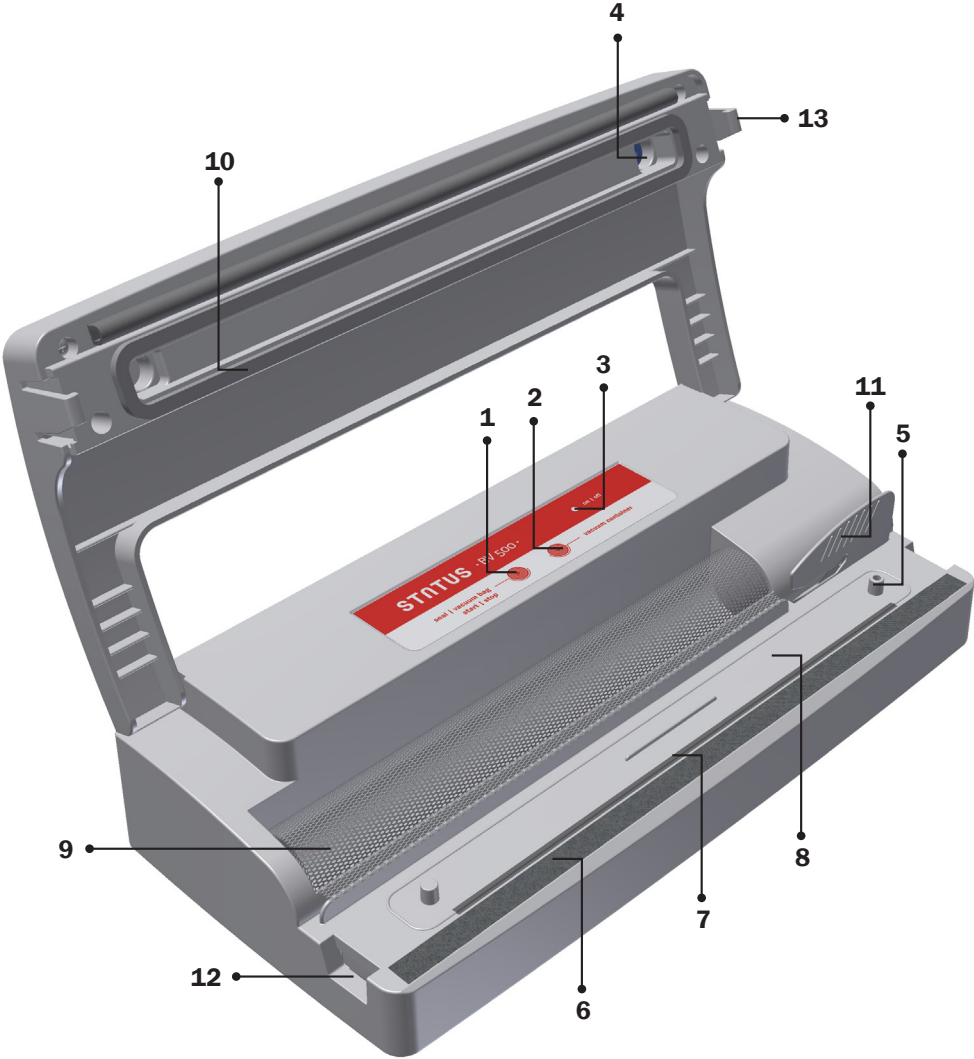
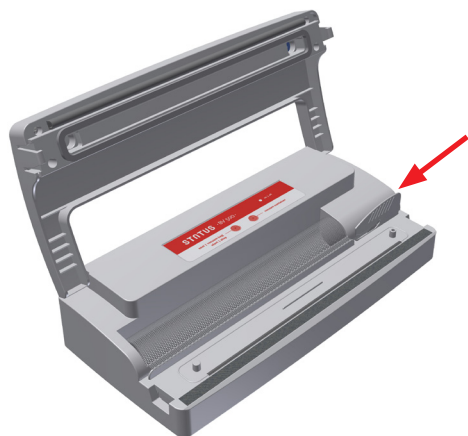
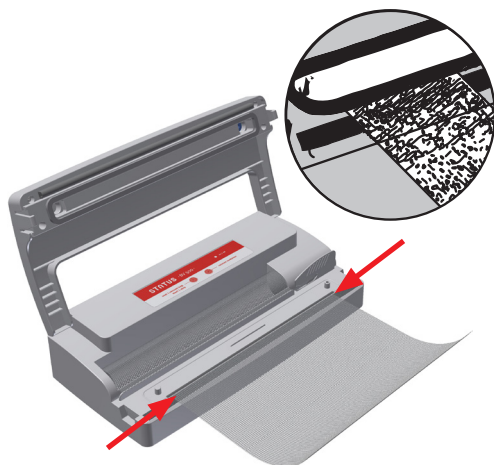

Figure 1: Status BV500 – components are marked with numbers.
Figure 2: Cut the roll with the included cutter.
Figure 3: Place the roll on the Sealing Strip and extend it to the black Silicon Gasket to seal (see arrows).
- d.) Never touch the Sealing Strip when using the machine (Item 6 in Figure 1) – it may be hot.
Every time you start working with the Status BV500 you should warm up the machine. Close the lid, press the **Seal** button (Item 1 in Figure 1) and press down on the lid. This first cycle will warm the sealing strip. When using vacuum bags skip paragraph 2 and continue with instructions in paragraph 3.
- b.) Cut off the desired length with the included cutter (Figure 2). Use Channel (Item 11 in Figure 1) to cut off bag evenly.
- c.) Place the roll on the Sealing Strip and extend it to the black Silicon Gasket (Item 7 in Figure 1, see Figure 3). Make sure that the edge is straight and level.
- e.) Press the **Bag/Start/Stop** button (Item 1 in Figure 1) and press down on lid with your hand and hold it. The lid will automatically stick down and seal the bag. If the Lid can be opened during the process, you didn't press down hard enough, so repeat the procedure. During sealing, the light (On/Off) will be illuminated 100%.
- f.) When the sealing process is completed, push Valve (Item 4 in Figure 1) lightly to move it aside. Open the lid and check the seal. It should be smooth and transparent over its whole width.
- c.) Place the filled bag on the work surface in front of the machine and pull it to the middle of the Vacuum Compartment (see Figure 4 and Item 8 in Figure 1).
- f.) Activate the **Bag/Start/Stop** button (Item 1 in Figure 1). Hold lid pressed until indicator light begins to shine with its full power. The bag will be vacuum packed and sealed automatically. Due to high vacuum pressure the lid stays closed while the machine operates. If the lid opens during this process then press the lid down firmly.
- g.) When the sealing process is complete, push valve (Item 4 in Figure 1) lightly to move it aside for lid to relax. Check the seal - it should be smooth and transparent over its whole width.
WARNING: If the machine starts sucking liquid when an item is vacuum packed, interrupt the vacuum packing process **immediately** by pressing the **Stop** button (Item 7 in Figure 1). You should then use the “manual vacuum packing” function to vacuum pack the item at a lower vacuum so that the liquid is not drawn into the machine.
- Place the filled bag on the work surface in front of the machine and pull it to the middle of Vacuum Compartment (Item 8 in Figure 1).
- Close the lid and secure it with side locks (Items 12 and 13 in Figure 1): press on one of the Lid edges and push the lock horizontally to set it in the allotted space (see the figures below).
- When you are satisfied with the amount of the air removed, or when the liquid starts pouring towards machine, press the same Bag/**Start**/Stop button (Item 1 in Figure 1). The pump stops immediately and the sealing process begins.
- Unlock the machine: press on the lid edges to open the lock. You can press both edges simultaneously or individually. Push valve (Item 4 in Figure 1) lightly to move it aside for lid to relax.
- Press the **Container** button (Item 2 in Figure 1) to vacuum the container. When the correct negative pressure is reached, the process stops automatically.